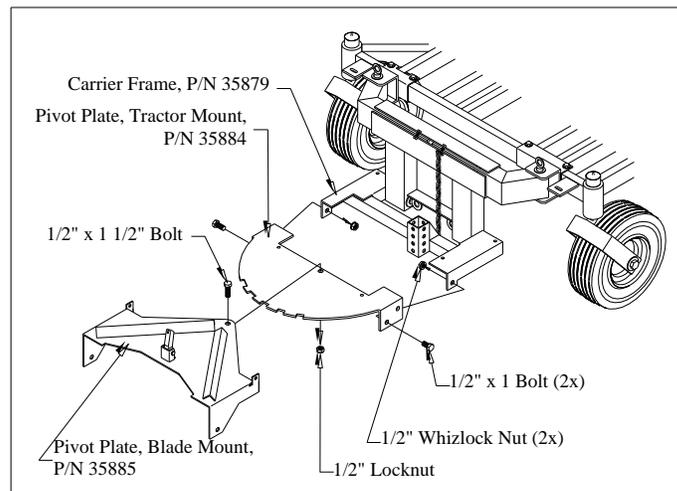

Fig. 4
4. Attach pivot plates together using 1/2" x 1 1/2" bolt and 1/2" locknut. Attach blade angle assembly to carrier frame as shown using 1/2" x 1" bolts and 1/2" whizlock nuts provided. **FIG. 4**